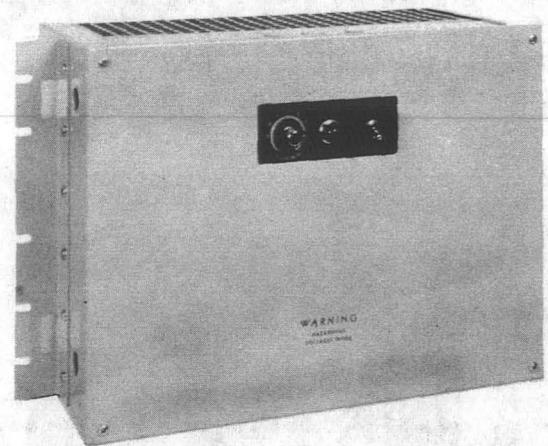

Fig. 1 — Front View
1.06 Fig. 1 shows a front view photograph of the amplifier with the cover mat and mounting brackets assembled. The figure also shows part of the perforated cover on the apparatus side.